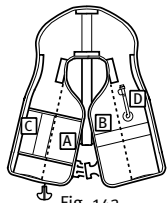

Fig. 14a
1. Fold lapels (A & B) across the front along the dotted lines (Figs. 14a & b).